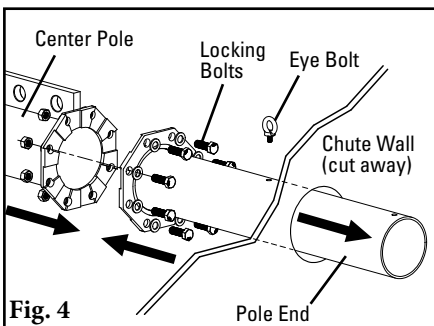

Fig. 4
4. **Assemble the pole ends to the center pole.** Remove the eye bolts if necessary and insert the pole ends through the chute holes from inside the chute and align bolt holes in flange with the center pole holes (Fig. 4). Install and tighten locking bolts, washers and nuts.